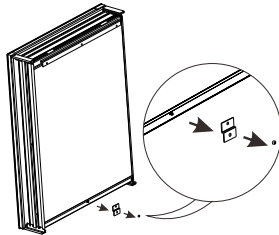

Fig.9
- 1.2 Remove the L-Mounting Clip from the bottom of the cabinet (Fig.9)